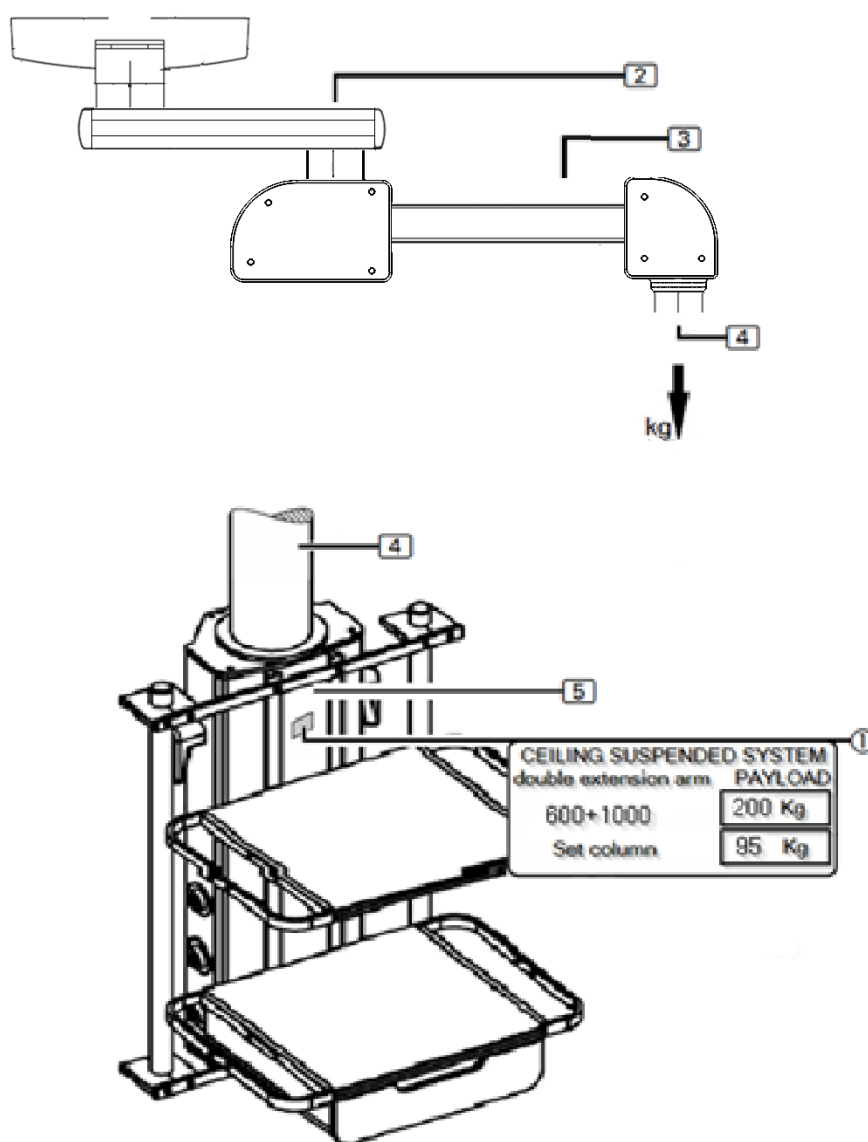

Fig.19 Location of the payload label
The dead weight of the drop tube (4) and the service head (5) must be subtracted from the maximum load capacity of the suspension system. This value corresponds to the maximum load capacity (payload). In the example illustrated in figure 19, there is an extension arm and motorised arm assembly with a load capacity of 120 kg, the maximum payload is 95 kg after subtraction of the dead weight of the service head and is indicated on the sticker (1) on the service head.